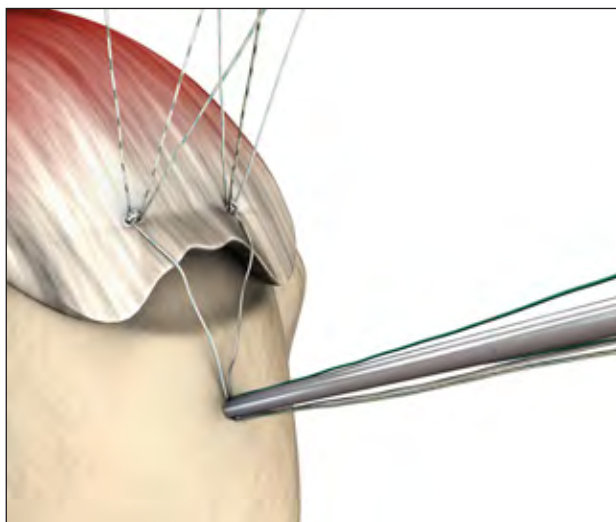
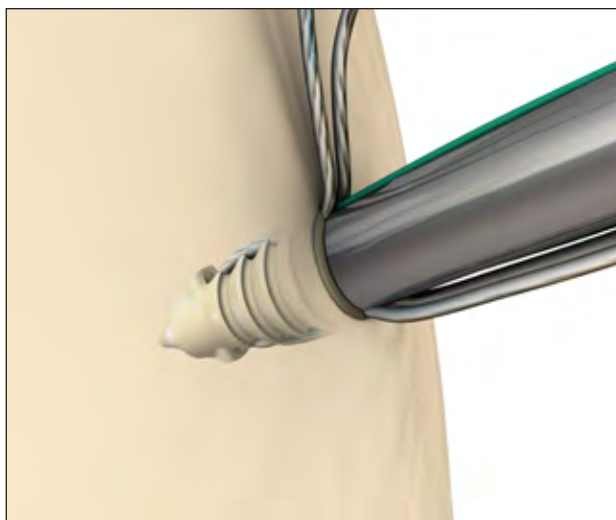

Figure 8
Figure 9
8. Establish and maintain axial alignment of the suture anchor to the prepared insertion site, and place the tip of the anchor into the prepared hole. Use a mallet to tap the inserter handle until the laser mark is flush with the cortical bone (Figure 8). This places the suture anchor approximately 1 mm below the bone surface (Figure 9).